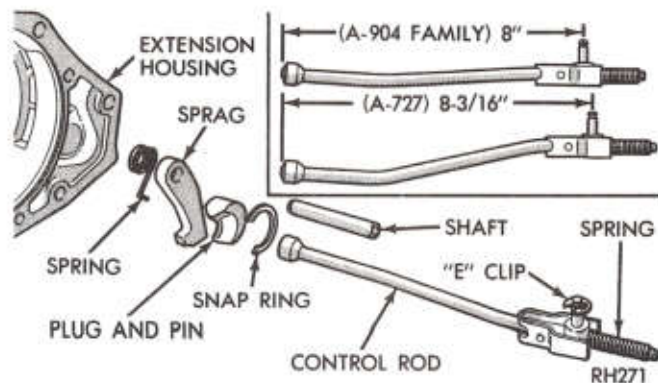

Fig. 12—Parking Lock Components
(1) Remove extension housing as previously described.
(2) Slide shaft out of extension housing to remove the parking sprag and spring (Fig. 12). Remove snap ring and slide the reaction plug and pin assembly out of the housing.
(3) To replace the parking lock control rod, refer to "Valve Body—Removal and Installation."
- (1) Install reaction plug and pin assembly in the housing and secure with snap ring (Fig. 12).
- (2) Position sprag and spring in housing and insert the shaft. Make sure square lug on sprag is toward parking gear, and spring is positioned so it moves sprag away from the gear.
- (3) Install extension housing.